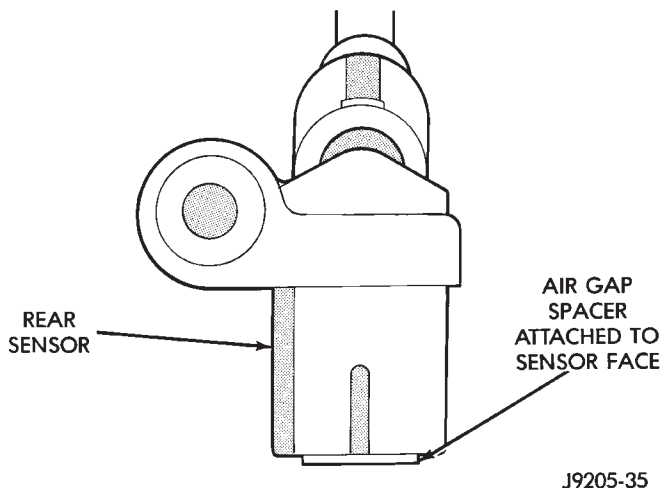

Fig. 24 New Rear Sensor With Air Gap Spacer
- (5) If **new sensor** is being installed, push cardboard spacer on sensor face (Fig. 24) against tone ring. Then tighten sensor bolt to 14 N·m (11 ft. lbs.). Correct air gap will be established as tone ring rotates and peels spacer off sensor face.
- (6) Route sensor wires to rear seat area.
- (7) Feed sensor wires through floorpan access hole and seat sensor grommets in floorpan.
- (8) Secure sensor wire in brackets and in retainers on rear brakelines. Verify that sensor wire is secure and clear of rotating components.
- (9) Install brake drum and wheel and lower vehicle.
- (10) Fold rear seat and carpet forward for access to sensor wires and connectors.
- (11) Connect sensor wires to harness connectors.
- (12) Reposition carpet and fold rear seat down.